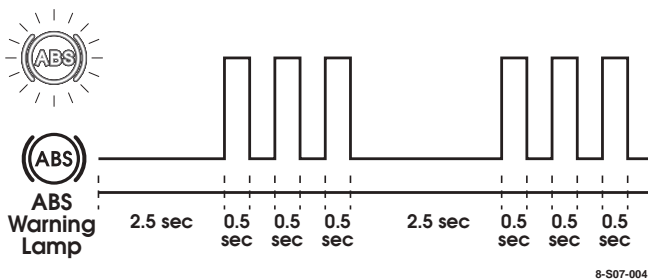

Figure 7-46: Blink Code Sequence For Code 3.3.
4. The *first part* of the code number (Figure 7-46:): A pause of 2.5 seconds precedes a series of short flashes. Count the flashes until the next long pause occurs. The number of short flashes obtained is the first part of the code number.